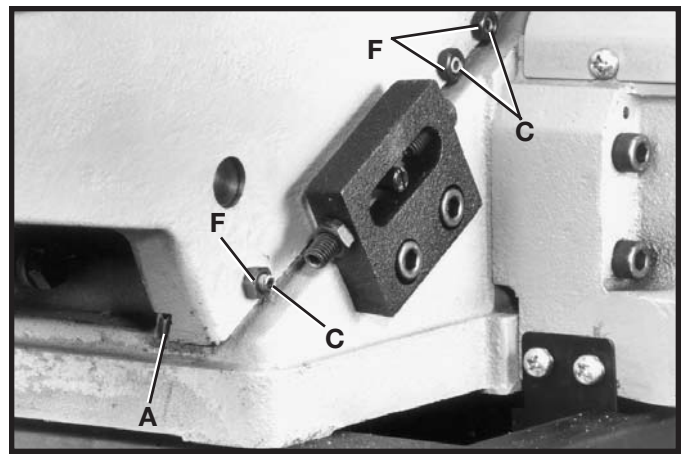
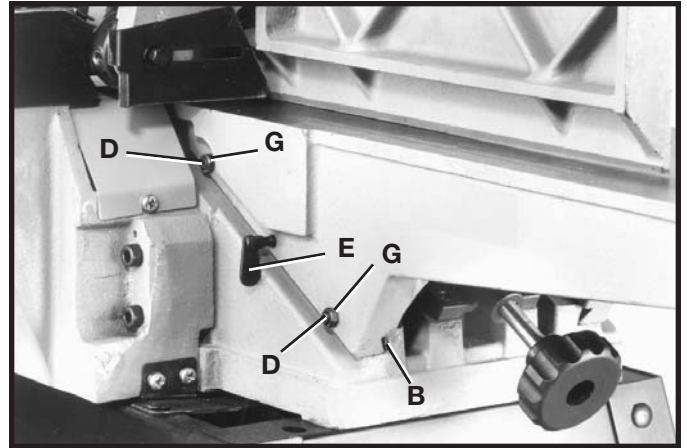

Fig. 46
Fig. 47
"Gibs" are provided to take up all play between the mating dovetail ways of the base and the infeed and outfeed tables. The "gib" for the infeed table is shown at (A) Fig. 46, and the "gib" for the outfeed table is shown at (B) Fig. 47. Proper "gib" adjustment is necessary for the correct functioning of the jointer. The "gibs" were adjusted at the factory and should require no further adjustment. If it becomes necessary to adjust the "gibs", proceed as follows:
1. To adjust the infeed or outfeed table "gibs," loosen three locknuts (F) Fig. 46, for the infeed table or two locknuts (G) Fig. 47, for the outfeed table. For the infeed table, make sure the table locking lever is loose. For the outfeed table, make sure the table locking screw (E) Fig. 47, is loose.
2. Tighten or loosen three gib adjustment screws (C) Fig. 46, as necessary for the infeed table or two gib adjustment screws (D) Fig. 47, as necessary for the outfeed table; starting with the lower screw first and as you proceed to the top screw, gently raise the outboard edge of the table that is being adjusted. This will offset any tendency for the table casting to "droop or sag" and permit the gib to be adjusted to a secure fit. After the gibs have been adjusted, tighten locknuts (F) Fig. 46, (G) Fig. 47, table locking screw (E) Fig. 47, and infeed table locking lever.